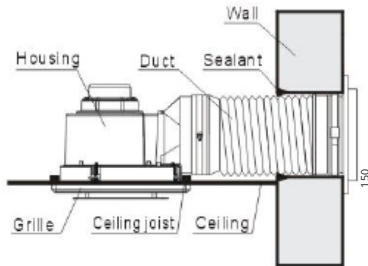

Figure 1: Installing ducting (sold separately)
- If ducting is required for ventilation. Install a 150mm duct pipe to the exhaust fan and lay the ducting across the ceiling and onto a suitable 150mm exhaust vent (see figure 1)